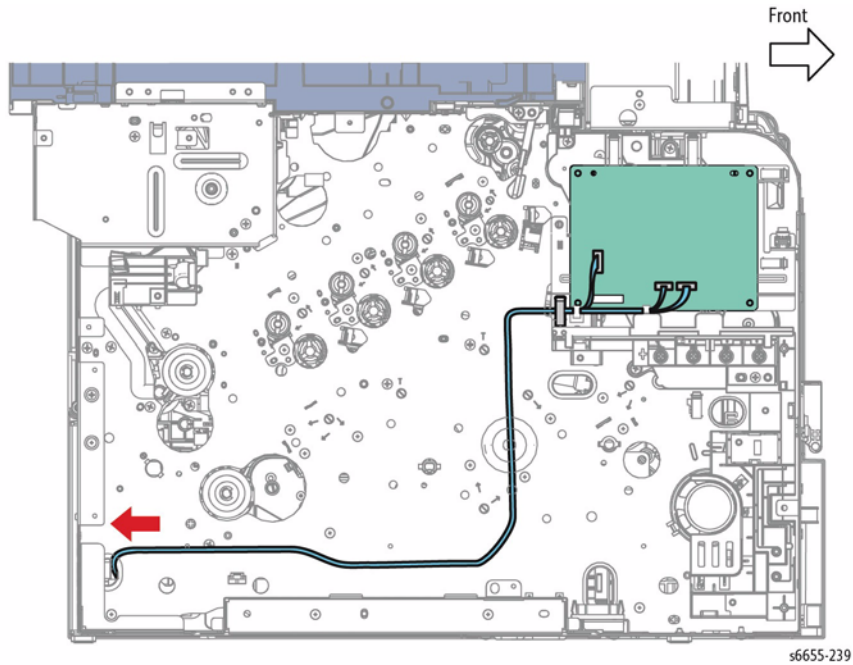

Figure 2 Unplug Connectors from the MCU Board and Remove the Harness
13. Refer to Figure 2 to locate and unplug connectors P/J13, P/J23, and P/J39 from the MCU Board, and release the harness from the clamp.